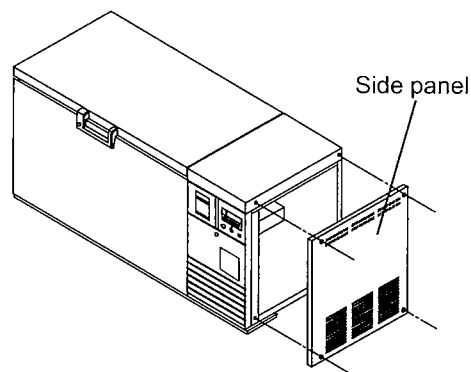

Fig. 2
2. As shown in the Fig.2, remove 4 fixing screws on the side panel and remove the side panel.